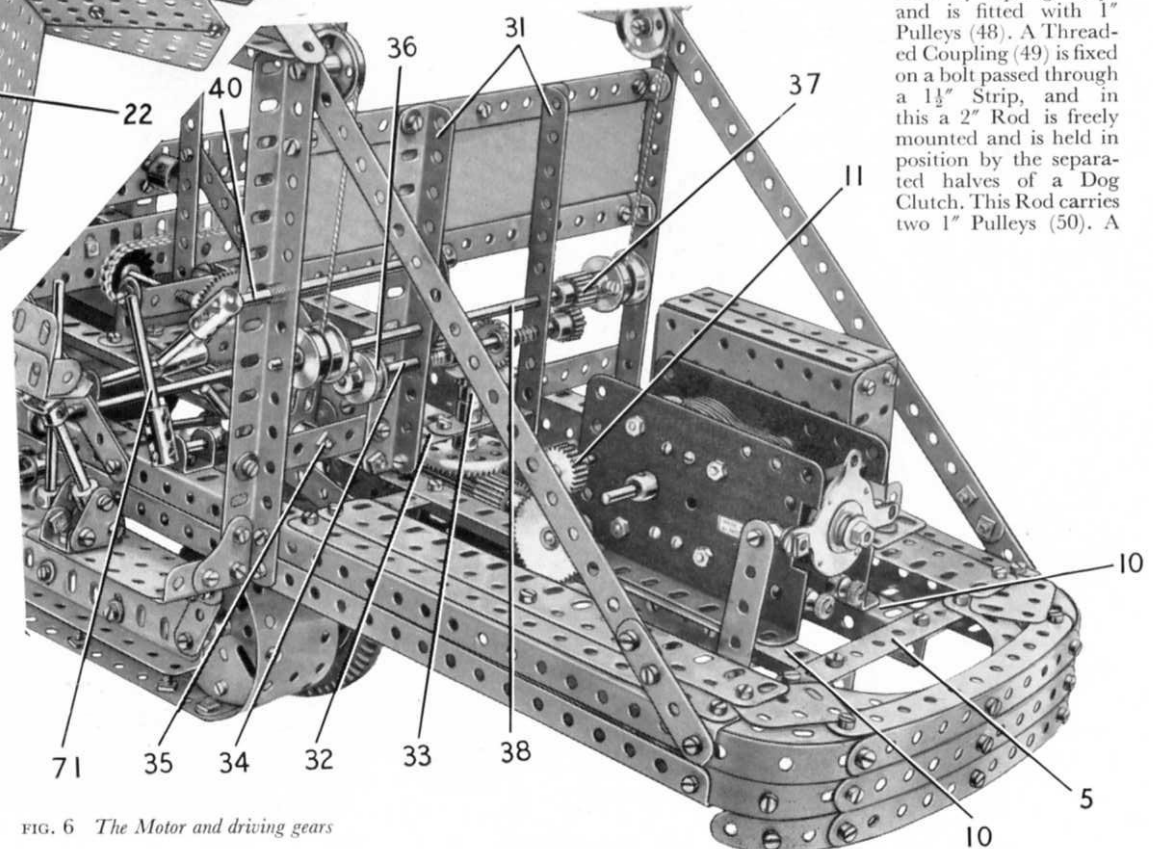

FIG. 6 The Motor and driving gears
An E15R Electric Motor is bolted by its flanges to the Girders (10) (see Fig. 6) and a
$\frac{7}{16}$ " Pinion on its armature shaft drives a 60-tooth Gear (see Fig. 2) on a 3" Rod mounted in the Motor side-plates. This Rod carries a  $\frac{3}{4}$ " Pinion (11) (Fig. 6) that drives a 50-tooth Gear on a  $2\frac{1}{2}$ " Rod. A Worm (12) (Fig. 2) fixed on this Rod engages a  $\frac{1}{2}$ " Pinion on an  $11\frac{1}{2}$ " Rod (13). The bearings for Rod (13) are provided by a Double Arm Crank (14) and a  $1\frac{1}{2}$ " Strip, each of which is attached to the Girders (10) by two Angle Brackets. The  $1\frac{1}{2}$ " Strip is positioned immediately behind a  $\frac{1}{2}$ " Pinion (15) (Fig. 8) fixed on the Rod, which carries also a  $\frac{3}{4}$ " diameter  $\frac{1}{2}$ " face Pinion (16) and a  $\frac{3}{8}$ " Bevel Gear (17).
Two  $5\frac{1}{2}$ " Angle Girders (31) are connected to the Girders (10) by Corner Angle Brackets, and each is joined to one of the Girders (2) by a 3" Strip. The Girders (31) are connected by two  $5\frac{1}{2} \times 2\frac{1}{2}$ " Flexible Plates overlapped seven holes and edged by two  $7\frac{1}{2}$ " Strips. These are attached to the Girders (2) by Angle Brackets. A  $2\frac{1}{2} \times \frac{1}{2}$ " Double Angle Strip (32), with a Double Arm Crank bolted to it, is fixed between the lower ends of the Angle Girders (31) (Fig. 6).
A  $1\frac{1}{2}$ " Contrate that meshes with the Pinion (16) (Fig. 6) is fixed on a  $1\frac{1}{2}$ " Rod free in the Double Angle Strip (32) and in the boss of the Double Arm Crank. A  $\frac{1}{2}$ " Pinion (33) is fixed on the upper end of the Rod. A cross shaft (34) is formed by a 5" Rod mounted in the Girders (31), and this carries two  $\frac{3}{8}$ " Contrates arranged one on either side of the Pinion (33), with a Compression Spring between each Contrate and one of the Girders (31).
The movement of Rod (34) is controlled by a Bell Crank mounted on a Pivot Bolt (35) (Fig. 6). One arm of the Bell Crank is extended by a 1" Rod held in a Handrail Support, and a Threaded Pin is fixed in the other arm. The Threaded Pin engages a  $\frac{1}{2}$ " loose Pulley (36) with a  $\frac{3}{4}$ " Washer and a Collar on either side of it. A  $\frac{1}{2}$ " Pinion on Rod (34) drives a  $\frac{1}{2}$ " diameter,  $\frac{1}{2}$ " face Pinion (37) on an 8" Rod (38). This Rod carries two pairs of  $\frac{3}{4}$ " Flanged Wheels and a Ratchet Wheel (39). A Pawl on a  $4\frac{1}{2}$ " Rod (40) engages